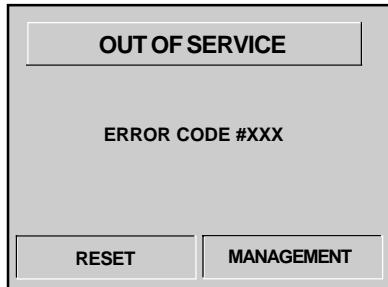

Fig. 7-2. This screen appears after recycling the terminal in an ‘Out of Service’ condition.
1. Recycle the ATM (see next page for instructions on how to reset the ATM). The ATM will re-initialize and after a short interval the ‘Out of Service’ menu will be displayed, as shown in Figure 7-2.